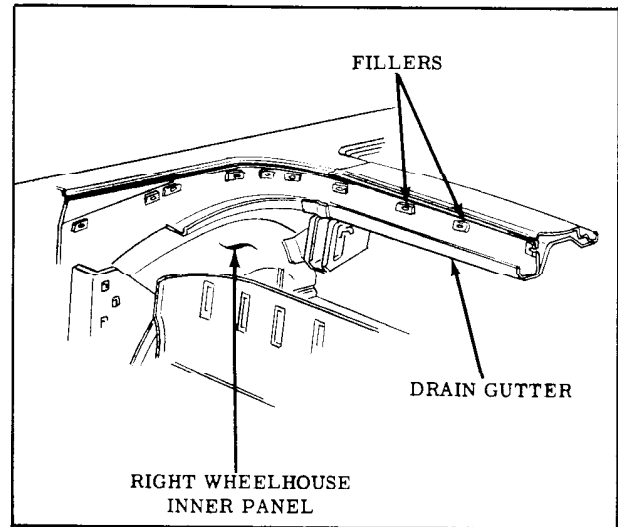

Fig. 15-95 Checking Trim Stick Fillers
14. Inspect rubber trim stick fillers cemented to body below pinchweld. Recement if necessary. (Fig. 15-95)